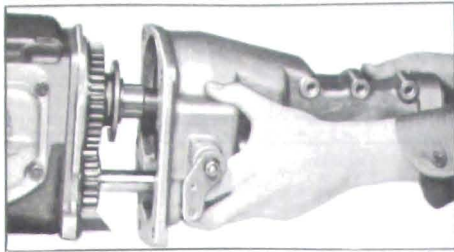

Figure 4-147—Installing Case Extension to Transmission Case
17. Place the two clutches in neutral position. Pull reverse shifter shaft to left side of extension and rotate shaft to bring reverse shift fork as far forward in extension as possible. Start the extension onto the transmission case (Figure 4-147) while slowly pushing in on the shifter shaft to engage the shift fork with the reverse gear shift collar. When the fork engages, rotate the shifter shaft to move the reverse gear rear-